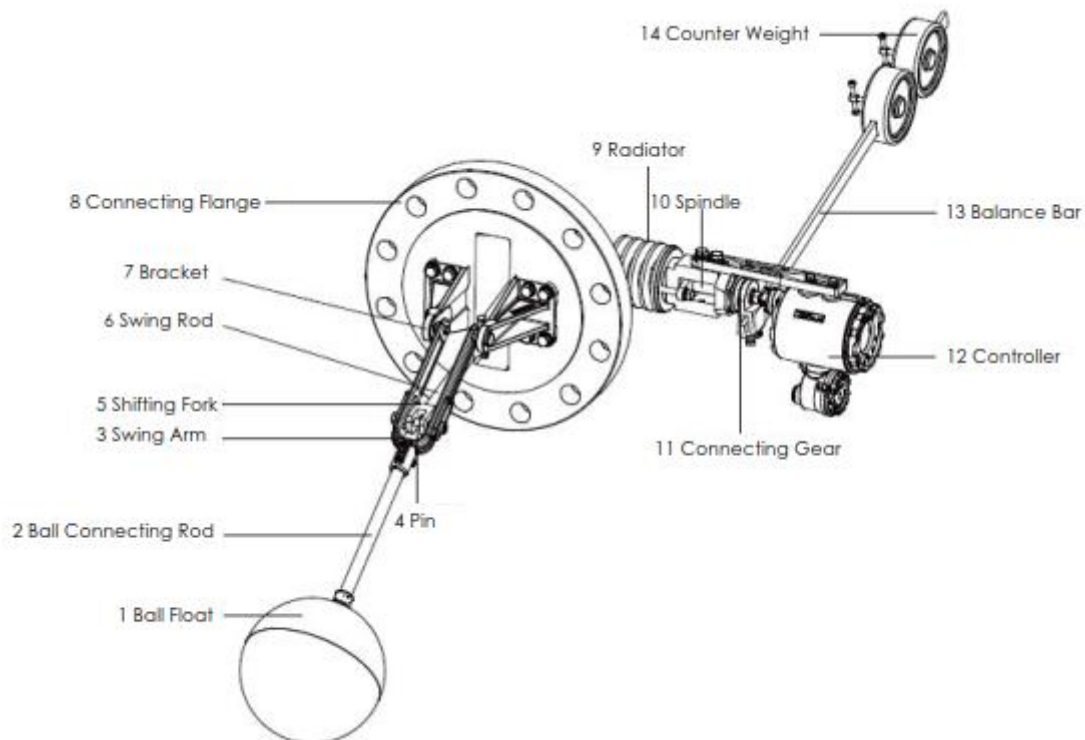

Figure 2 Large Rotation Angle Ball Float Level Transmitter
-Figure 2 Large Rotation Angle Ball Float Level Transmitter